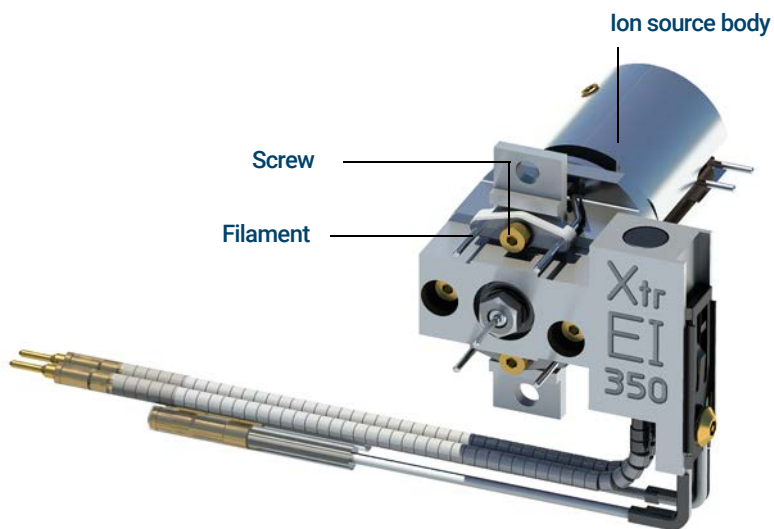

Figure 64. Changing the EI XTR or HydroInert Source filament
- 4 Remove the screws holding the filaments to the ion source body. (See Figure 64 on page 200.)
- 5 Slide the filaments off the ion source assembly. (See Figure 64 on page 200.)
- 2 Place the new filament into its position on the ion source body. (See Figure 64 on page 200.)